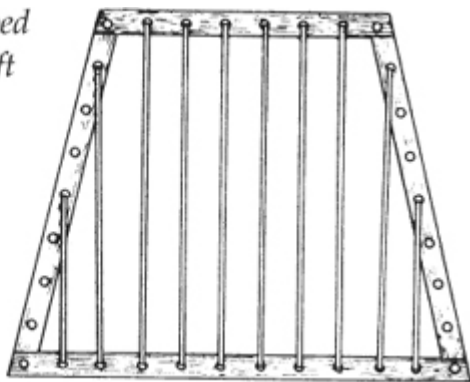

fig. 2
10. If you have extra holes in the front rail, complete them as shown in Figure 2. If at any time you run out of cane, peg a new piece in the corresponding hole in the opposite rail to the one you have just finished with a temporary peg. This may be removed and replaced when you run later pieces of cane through the hole. Always leave about a three-inch end below the seat.